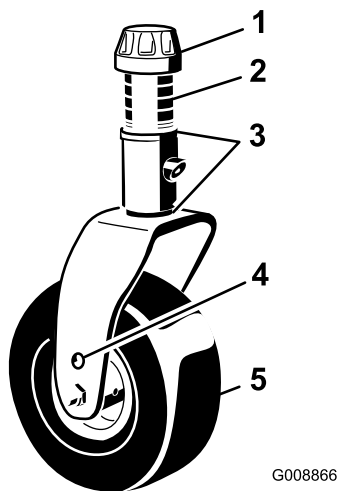

Figure 18
5. Remove the tensioning cap from the spindle shaft and slide the spindle out of the caster arm (Figure 18).